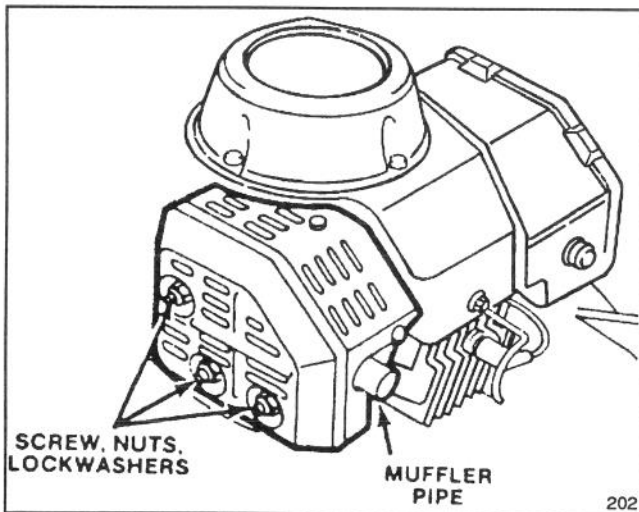

Figure 21
1. Use hard wood scraper and remove carbon from end of muffler pipe (Fig. 21).
2. Remove screw, two nuts, and lockwashers (Fig. 21). Slide muffler off mounting pins.